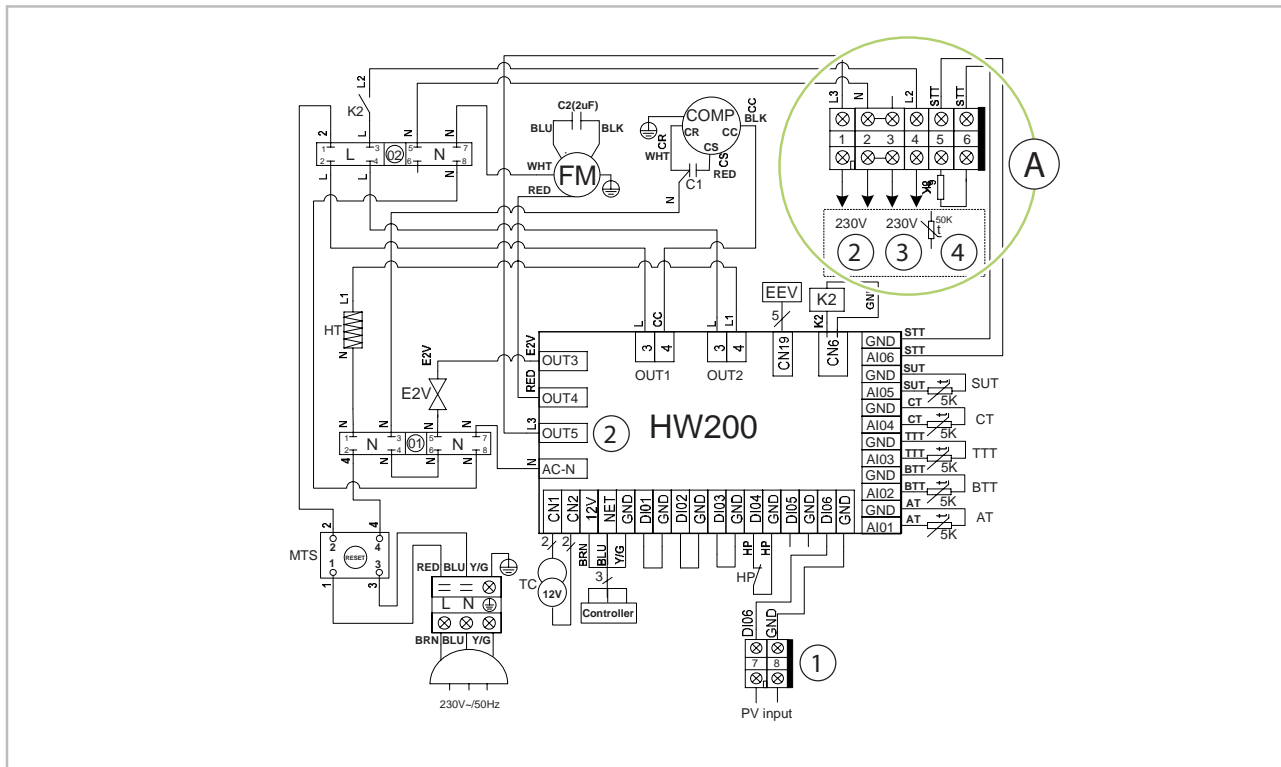

Fig. 40: Electrical drawings for domestic hot water heat pump with solar connection
- To operate the heat pump in conjunction with max. 7.5 m² solar collector surface, once the hydraulic connection is established, it is also necessary to connect the collector probe supplied as standard. To do so, use the appropriate measuring point on your collector surface and connect the probe to the connection (Fig. 40), terminal 4. The solar collector pump is installed on terminal 2.
To operate the REMKO RBW domestic hot water heat pump in conjunction with a photovoltaic system, you have the option to use the potential-free contact (Fig. 40), terminal 1.